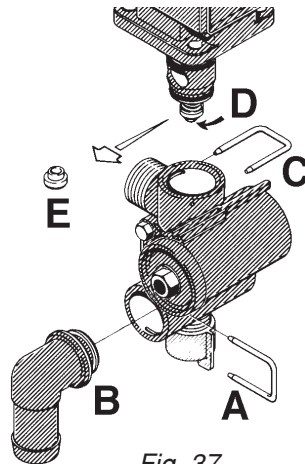

Fig. 37
2. Remove clip **(A)** (Fig. 37) and remove hose **(B)** (Fig. 37) for the constant pressure device. When the housing is drained make sure everything is clear from part **(B)** (Fig. 37).
3. Start the sprayer, there should not be any flow of liquid through the constant pressure passage. If there is any leakage, the valve cone **(E)** (Fig. 37) must be changed. (Shut sprayer off.)
4. Remove clip **(C)** (Fig. 37), and pull the EC motor off the valve housing.
5. Remove **(D)** (Fig. 37) screw and replace the valve cone **(E)** (Fig. 37). Reassemble in opposite sequence.